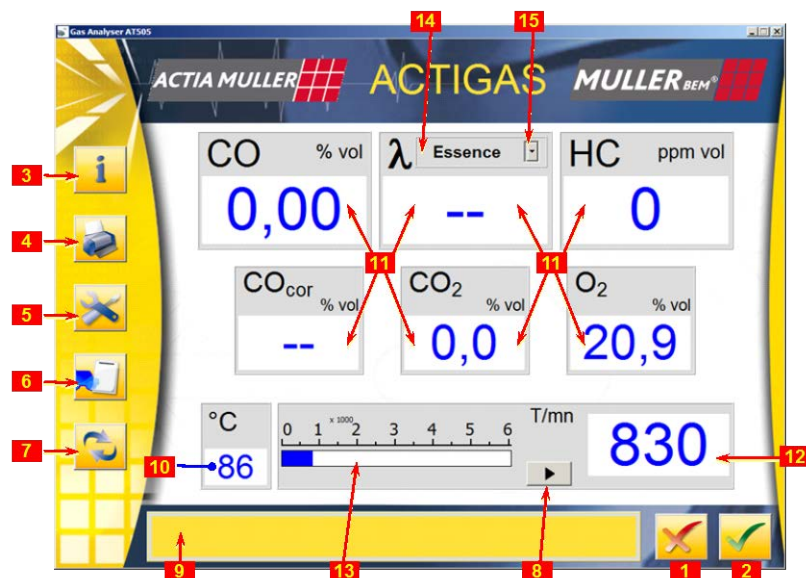

Fig. 7 – Initial Gas Analyser Software screen description
Note to Button 2 - Fig. 7 (**ENTER** Button):
Here you can change the setting of the Speed and Temperature Sensor, fuel type and several other features of the program. You can get to the setup mode by clicking on the button **F3** (pos. 5 - Fig. 7).